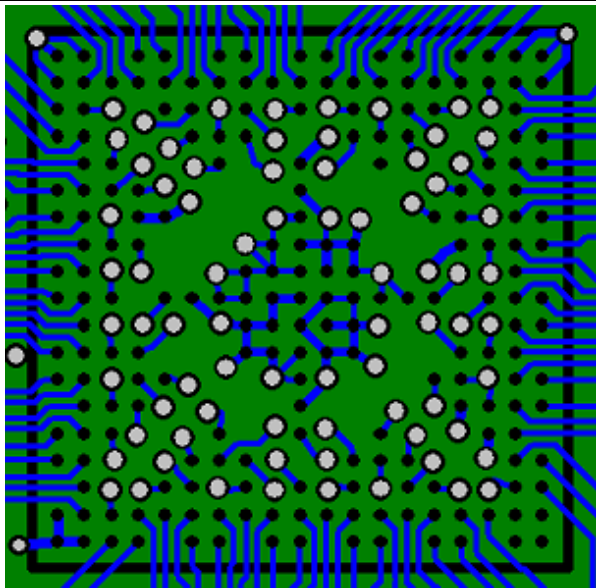
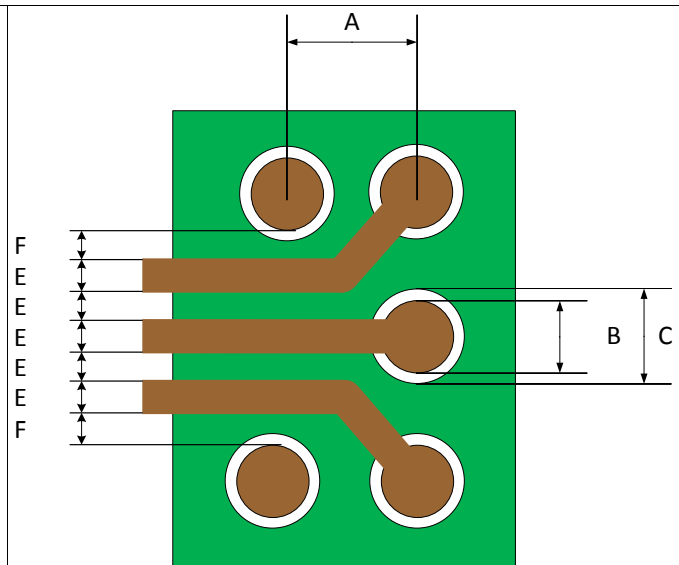

Figure 9. Top Layer 212-Ball BGA Escape Routing
Figure 10. BGA Escape Routing Through Depopulated Ball Location
Figure 9 shows the recommended top layer routing pattern used to escape the BGA. The black dots are the 0.25 mm (9.84 mil) BGA landing pads (also shown as B in Figure 10). The black circles with white centers are 0.457-mm (18-mil) vias.
Some things to note about Figure 9:
- Routing from the second row of balls between balls with a 0.5 mm (19.69 mil) spacing and 0.1 mm (4.0 mil) trace and space is not possible. Traces from the second row of balls must be routed through the opening left by the depopulated ball in the first row as shown in Figure 10 where E is 0.1 mm (4 mil) and F is 0.12 mm (4.76 mil).